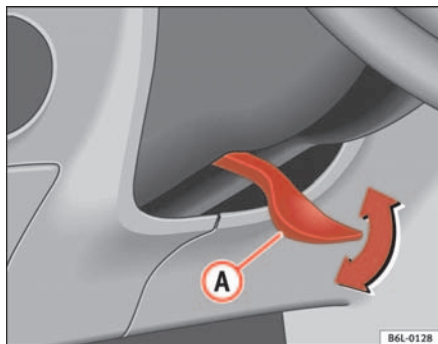

Fig. 96 Adjusting the steering wheel position
- Push down the lever **A** ⇒ fig. 96 located under the steering column ⇒ ⚠.